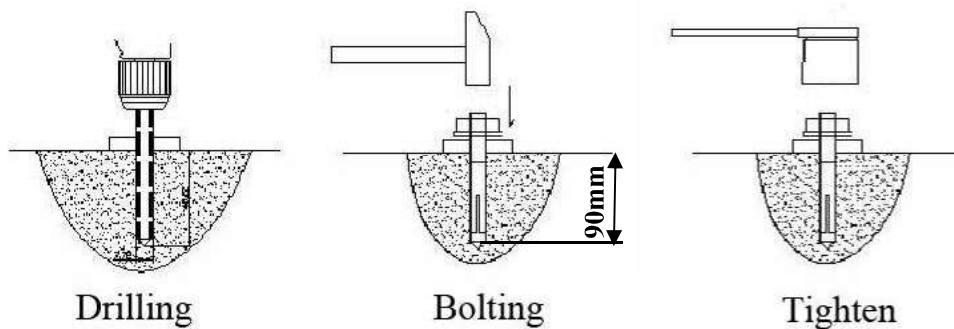

Fig.17
2. Using the prescribed rotary hammer drill, and drill all the anchor holes and install the anchor bolts. Then tighten the anchor bolts (See Fig. 17).